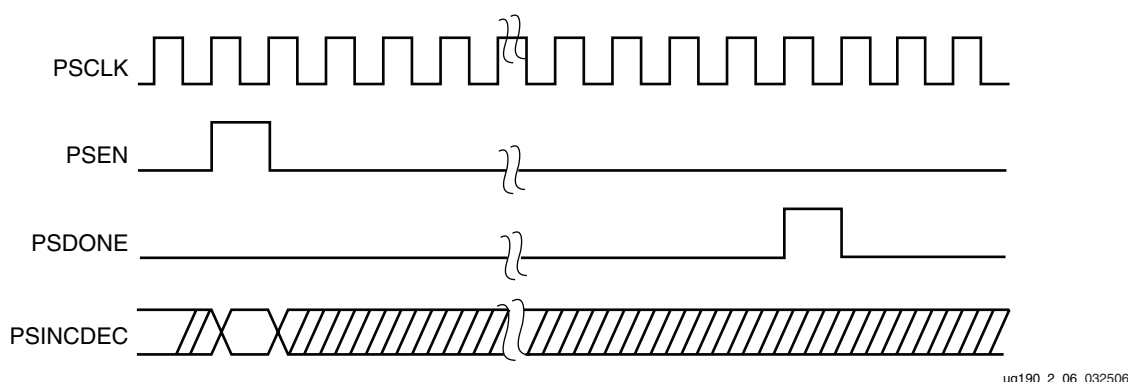

Figure 2-6: Phase-Shift Timing Diagram
Figure 2-6 illustrates the interaction of phase-shift ports.
When PSEN is activated after the phase-shift counter has reached the maximum value of PHASE_SHIFT, the PSDONE is still pulsed High for one PSCLK period some time after the PSEN is activated (as illustrated in Figure 2-6). However, the phase-shift overflow pin, STATUS(0), or DO(0) is High to flag this condition, and no phase adjustment is performed.